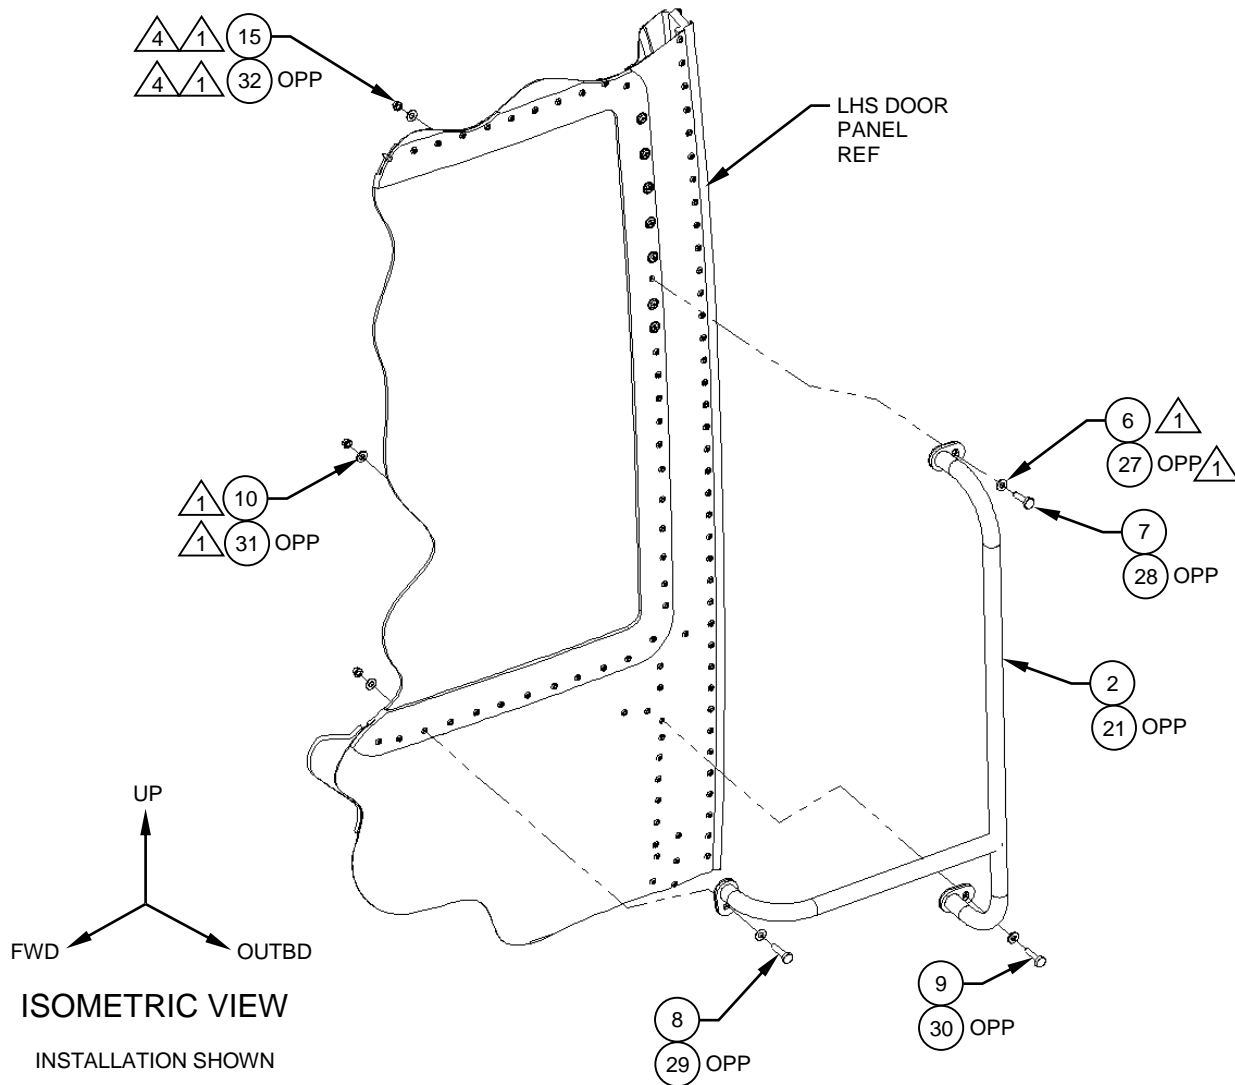

Figure 6
7. Attach the Handle, Assy (Item 2, 21 OPP) using the supplied hardware, as shown. Reference Figure 6.